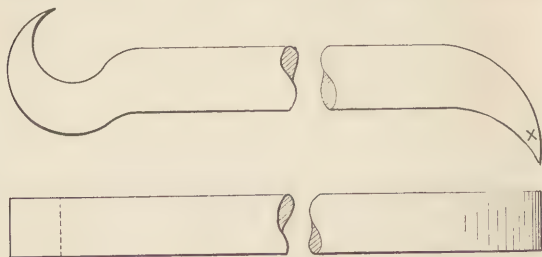
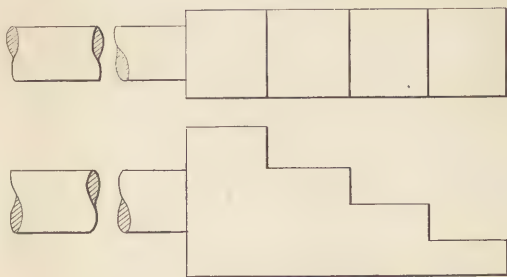
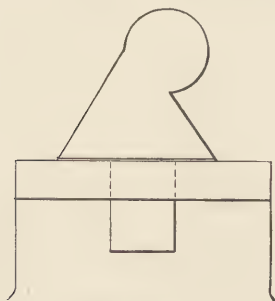

Fig. 22. Key Puller.
Fig. 23. Assistant for Key Puller.
Fig. 24.
**Key Puller.**—A useful tool for machine shop, tool room, erecting room, repair department and shipping room is the jimmie-bar or key puller and its assistant. Fig. 22 shows side and front view of jimmie-bar and Fig. 23 side and front view of the assistant. Fig. 24